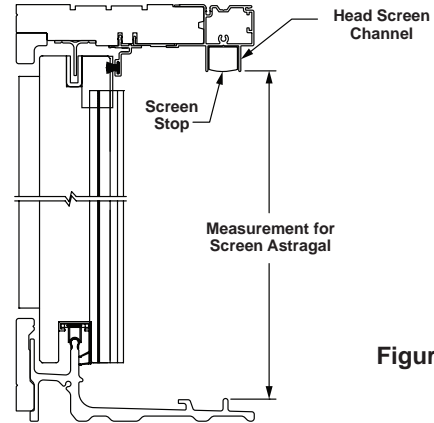

Figure 42
48. Measure the distance between the head screen channel and the screen roller track. Cut the screen astragal 1/8" shorter than this measurement (Fig. 42).